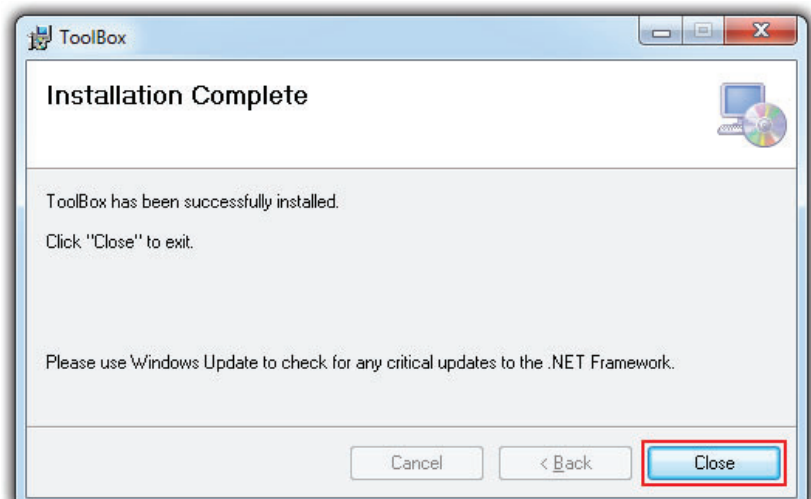

Fig 6
- H** When ToolBox has finished installing, 'Installation Complete' will appear (Fig 6). Click '**Close**'. The installer will place an icon on your desktop for easy access to ToolBox.